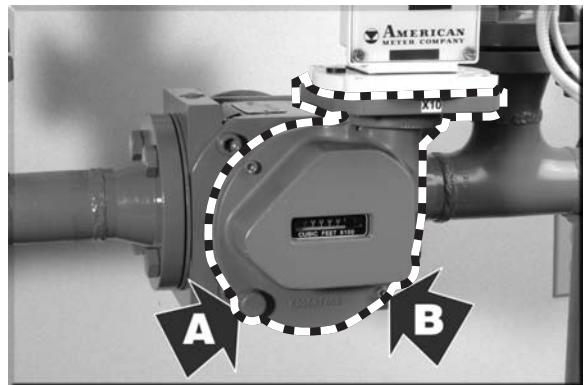

Fig. 10 Security Cap Seal & Mounting Screws
- Remove security seal cap (Fig. 10 “A”), p/n 52548P013, from register cover mounting screw with pliers.
- Remove three M6 register cover mounting screws (Fig. 10 “B”), p/n 52533P020, holding the register cover to the case cover using 5mm Allen wrench.
- Mount the supplied register cover assembly (Fig. 10 dashed line) securing with three M6 screws, p/n 52533P020, placing new security seal cap on lower left screw.